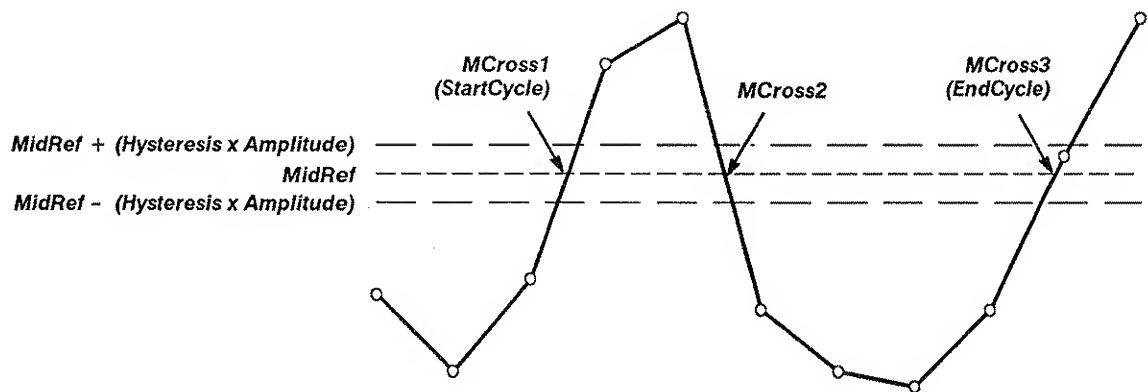

Figure A-25: MCross Calculations
**MCross1, MCross2, and MCross3** — refer to the first, second, and third *MidRef* Cross times, respectively. See Figure A-25.